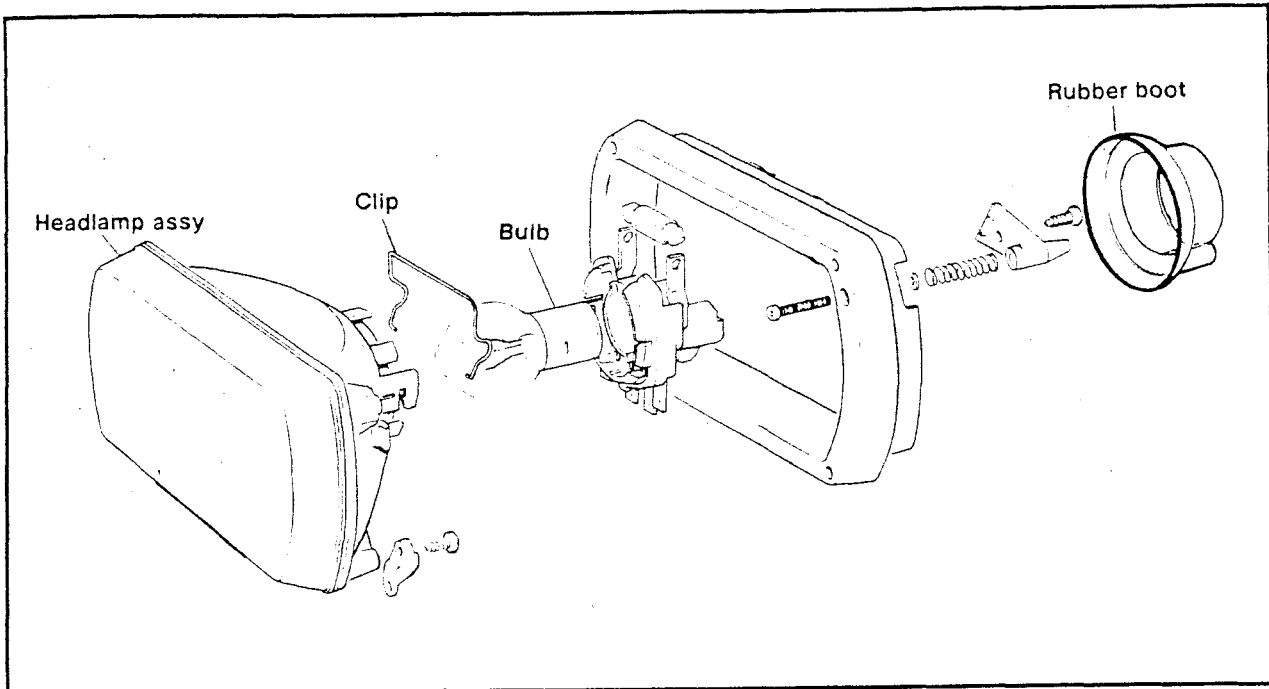

Figure 4-27. Headlamp Replacement
3. See Figure 4-27. Release the bulb clip.